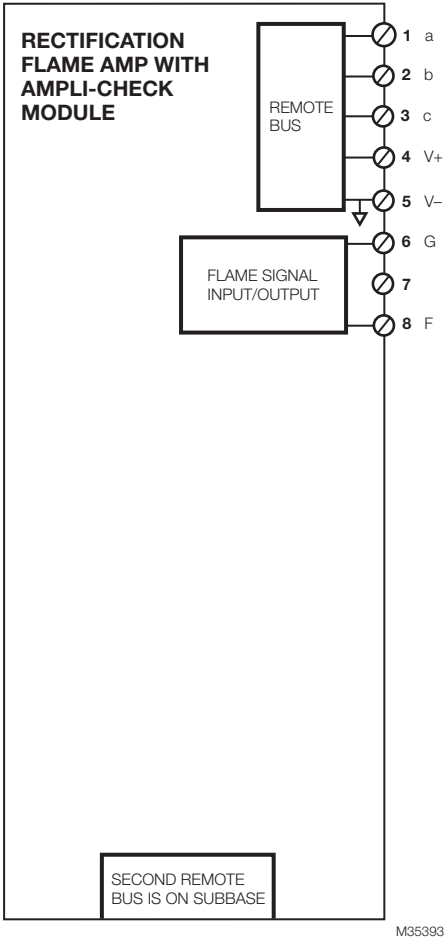

Fig. 4. R8001V1031 SLATE Rectification Ampli-Check Flame Amplifier wiring.
1. Refer to Fig. 4 for proper flame detector wiring.
- (1)** Enclose scanner wiring without armor cable in metal cable or conduit.
- (2)** Follow flame detector Instructions.
- 6.** Check wiring, see Fig. 4.